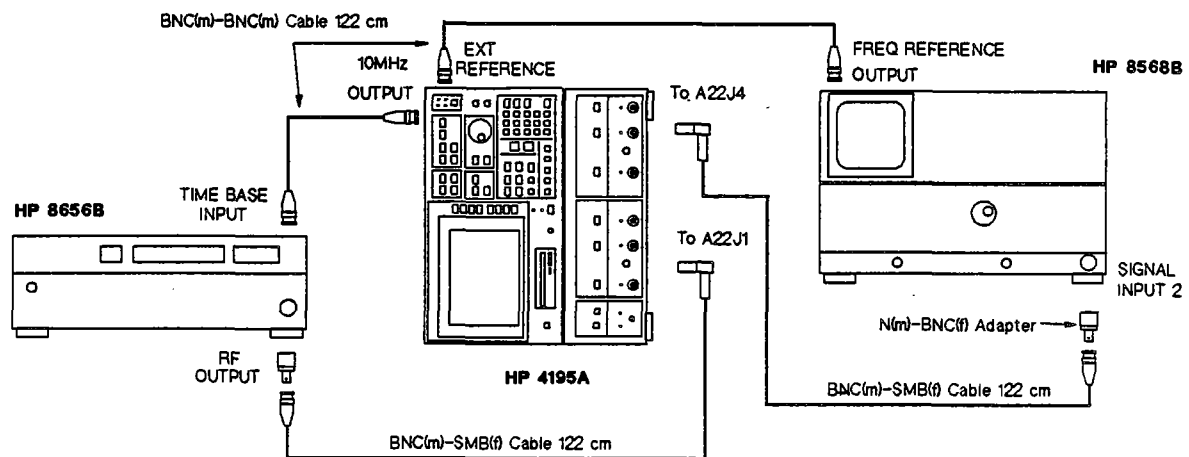
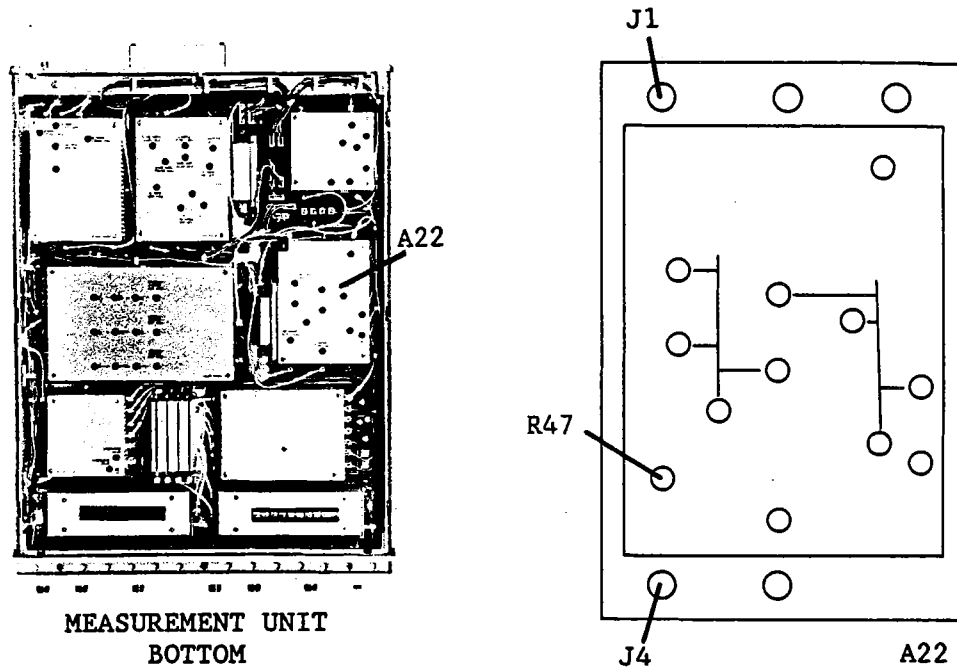
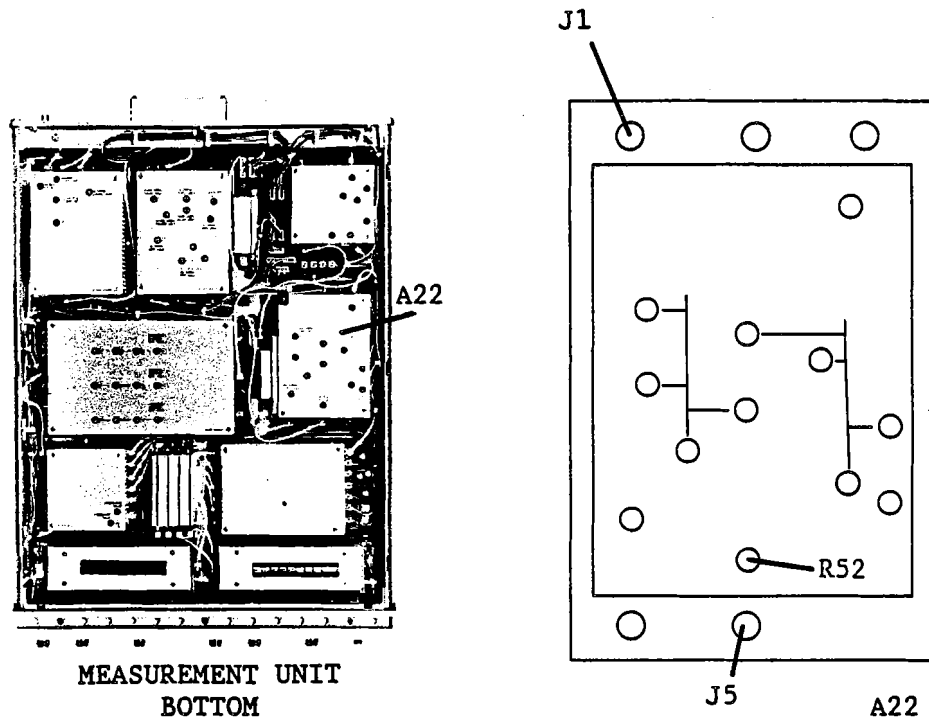

Figure 3-69. Receiver First IF Converter Level Adjustment Setup
Figure 3-70. Receiver First IF Converter 86.6 MHz Level Adjustment Locations
Figure 3-71. First IF Converter 86.6 MHz Level Adjustment Locations
1. Connect the equipment as shown in Figure 3-69. See Figure 3-70 for A22J1 and A22J4 locations.
1. Connect the equipment as shown in Figure 3-69. See Figure 3-71 for A22J1 and A22J5 locations.